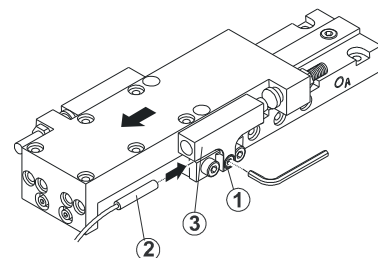

fig 3
Adjustment of limit switch (ES), fig 3
1. Loosen M3 clamping screw (1).
2. Slide limit switch (2) from rear into stop block guide (3) up as far as stop.
3. Retighten clamping screw (1).
4. Connect limit switch (2) to electricity supply.